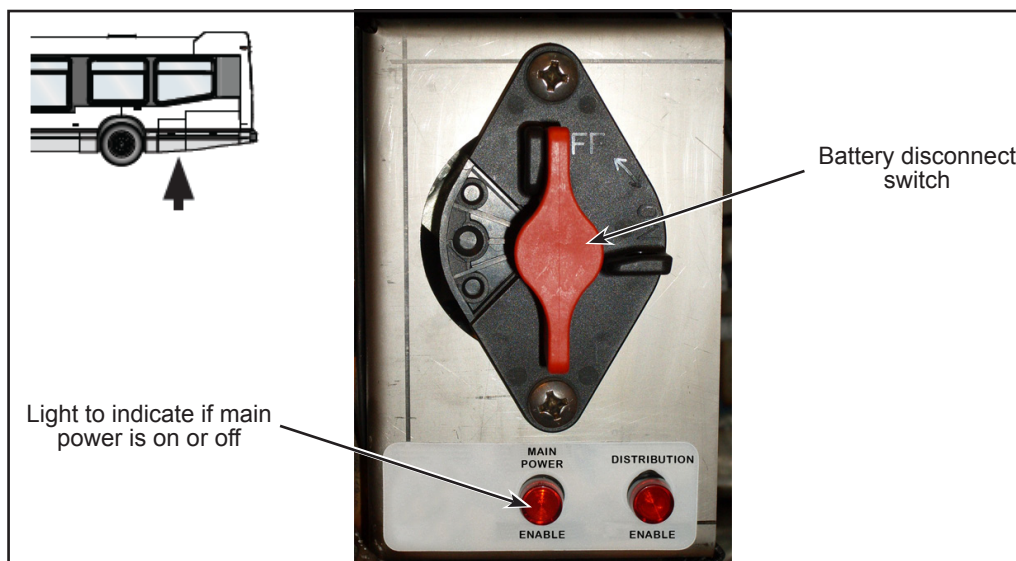

Figure 2 - Battery disconnection switch position
- 1.3. Set the battery disconnect switch in the battery compartment to the OFF position (see Figure 2).